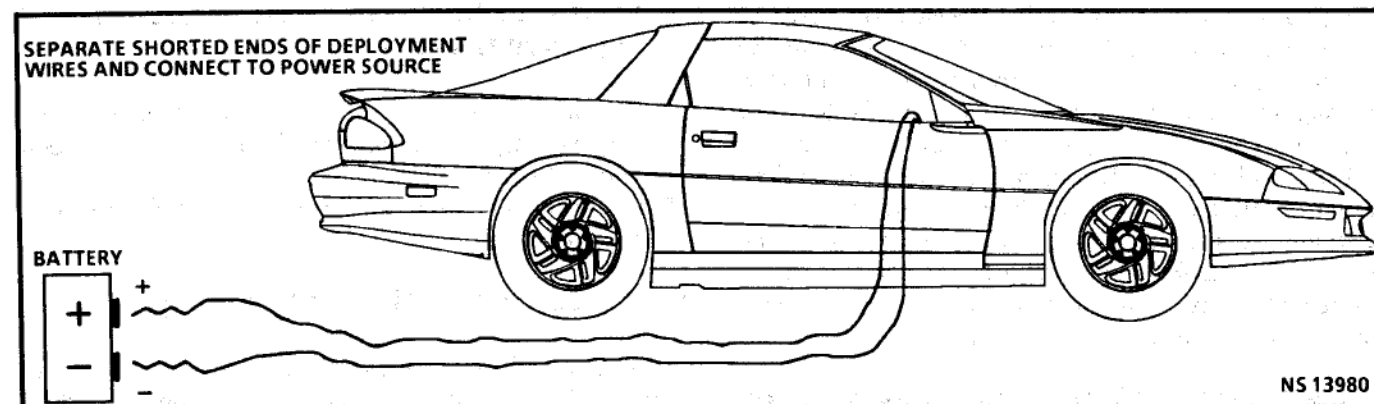

Figure 32 - Separate Shorted End of Deployment Harness and Connect to Power Source
29. Separate the two ends of the passenger deployment harness wires (Figure 32).
30. Connect the passenger deployment harness wires to a power source to immediately deploy the passenger inflator module. Recommended application: 12 volts minimum, 2 amps minimum. A vehicle battery is suggested (Figure 32).